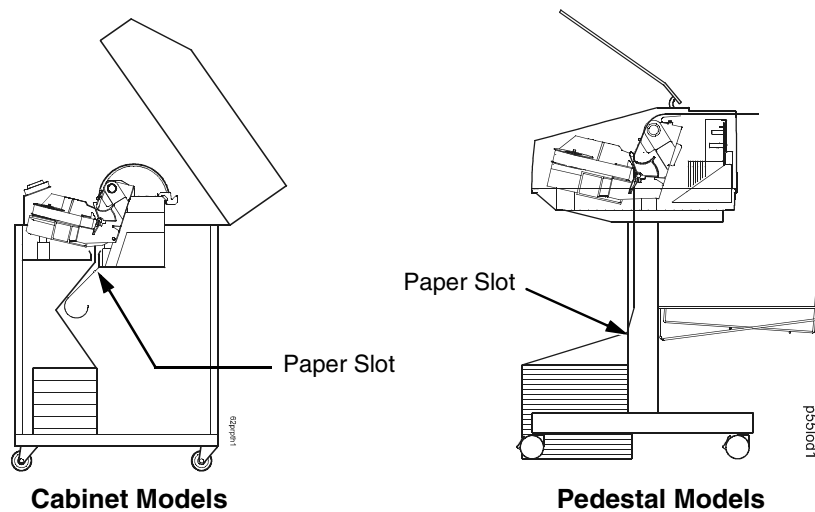

Figure 31. Feeding the Paper Through the Paper Slot
15. For pedestal models with the Quick Access Cover, see Figure 31 on page 48 for paper exiting options. For all other pedestal models, manually feed the paper through the rear paper exit by using the vertical position knob.